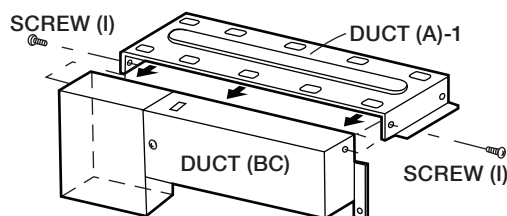

Figure 3
- B. Position DUCT (A)-1 on the top of the oven inserting edge of DUCT (BC) assembly into hole lip of DUCT (A)-1. Tighten two SCREWS (I), securing DUCT (A)-1 to DUCT (BC) assembly. See Figure 3.